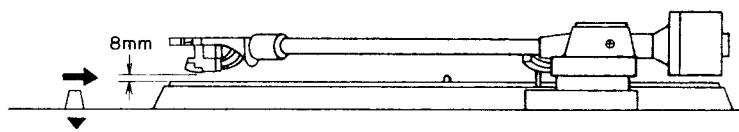

Fig. 11
- 3) Put a record on and set the elevation control to \blacktriangledown . Adjust screw (a) until there is an 8 mm gap between the tip of the stylus and the surface of the record. (Refer to Figs. 11, 12.)